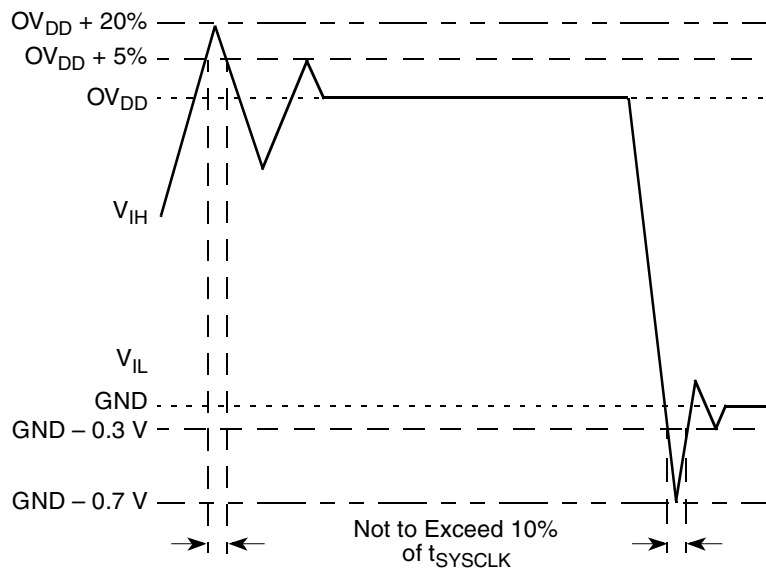

Figure 2. Overshoot/Undershoot Voltage
4. **Caution:** V_{in} must not exceed OV_{DD} by more than 0.3 V at any time including during power-on reset except as allowed by the overshoot specifications. V_{in} may overshoot/undershoot to a voltage and for a maximum duration as shown in Figure 2.
Figure 2 shows the overshoot and undershoot voltage on the MPC7448.